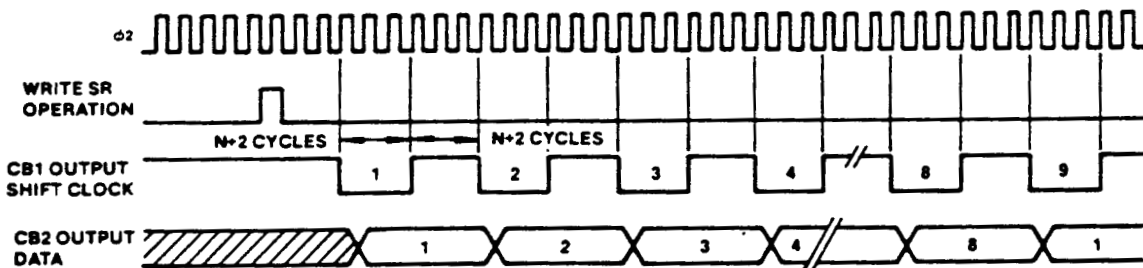

Figure 33. Shift Out—Free Running T2 Rate
Shift Out—Free Running at T2 Rate (100)—This mode is similar to mode 101 in which the shifting rate is determined by T2. However, in mode 100 the Shift Register Counter does not stop the shifting operation. Since Shift Register bit 7 (SR7) is recirculated back into bit 0, the eight bits loaded into the Shift Register will be clocked onto the CB2 line repetitively. In this mode, the Shift Register Counter is disabled and \overline{IRQ} is never set. Refer to Figure 33.